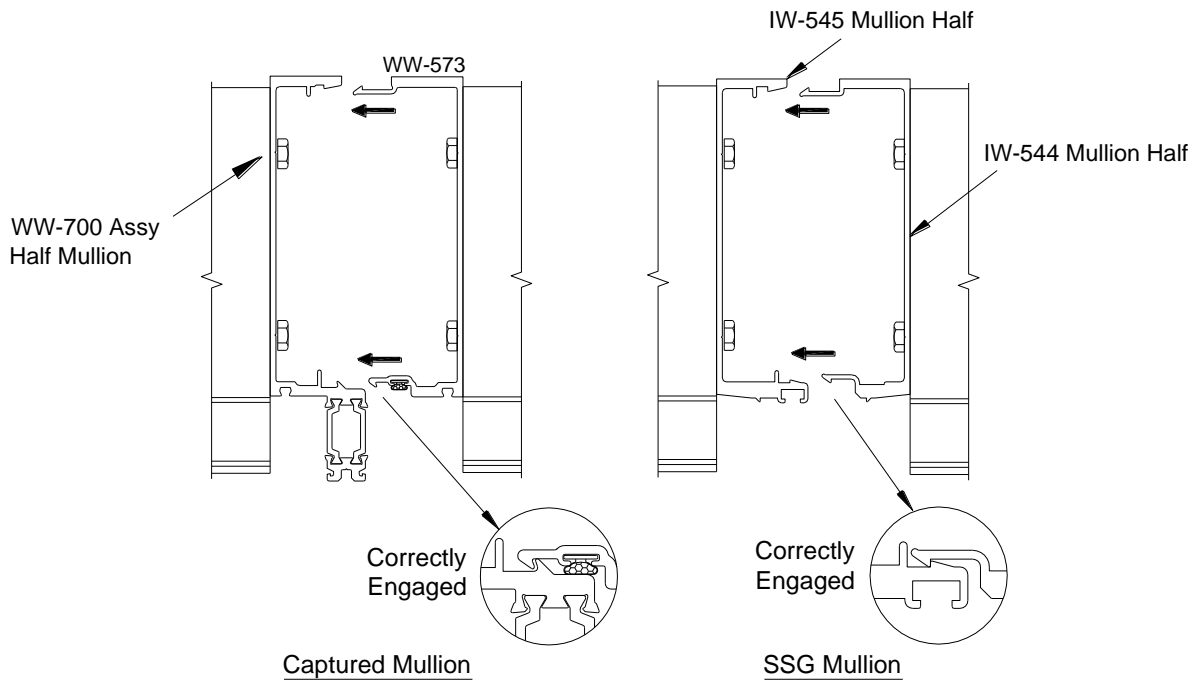

Figure 15: Mullion Engagement
- 6.4 Set next bay into opening by engaging mullion halves together. Ensure that bottom of mullion halves align. Anchor this bay to structure. **See FIGURE 15.**